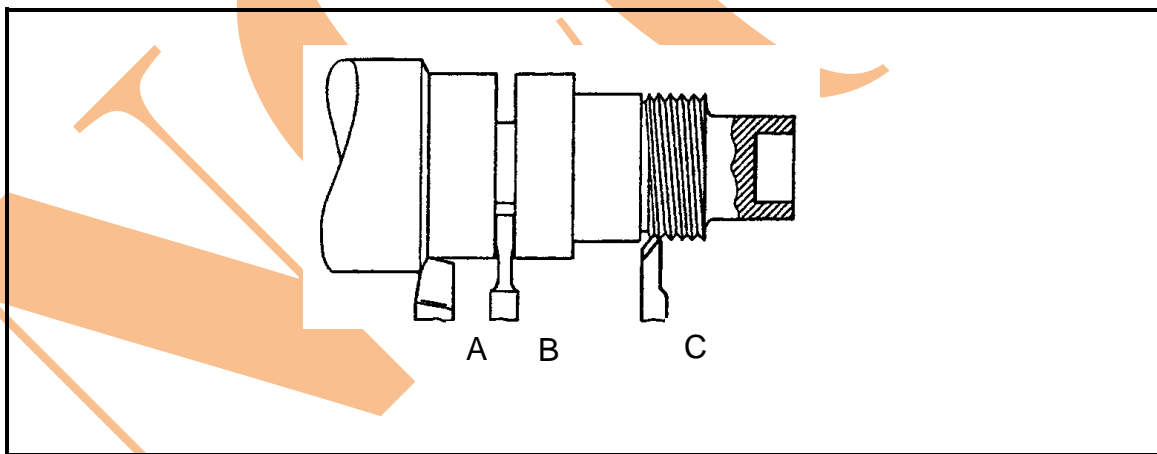

FIGURE 4
2.8 A mild-steel shaft is machined on the centre lathe between centre's as shown in FIGURE 4 below. Label the parts of the cutting tool lettered (A–C) in the ANSWER BOOK.